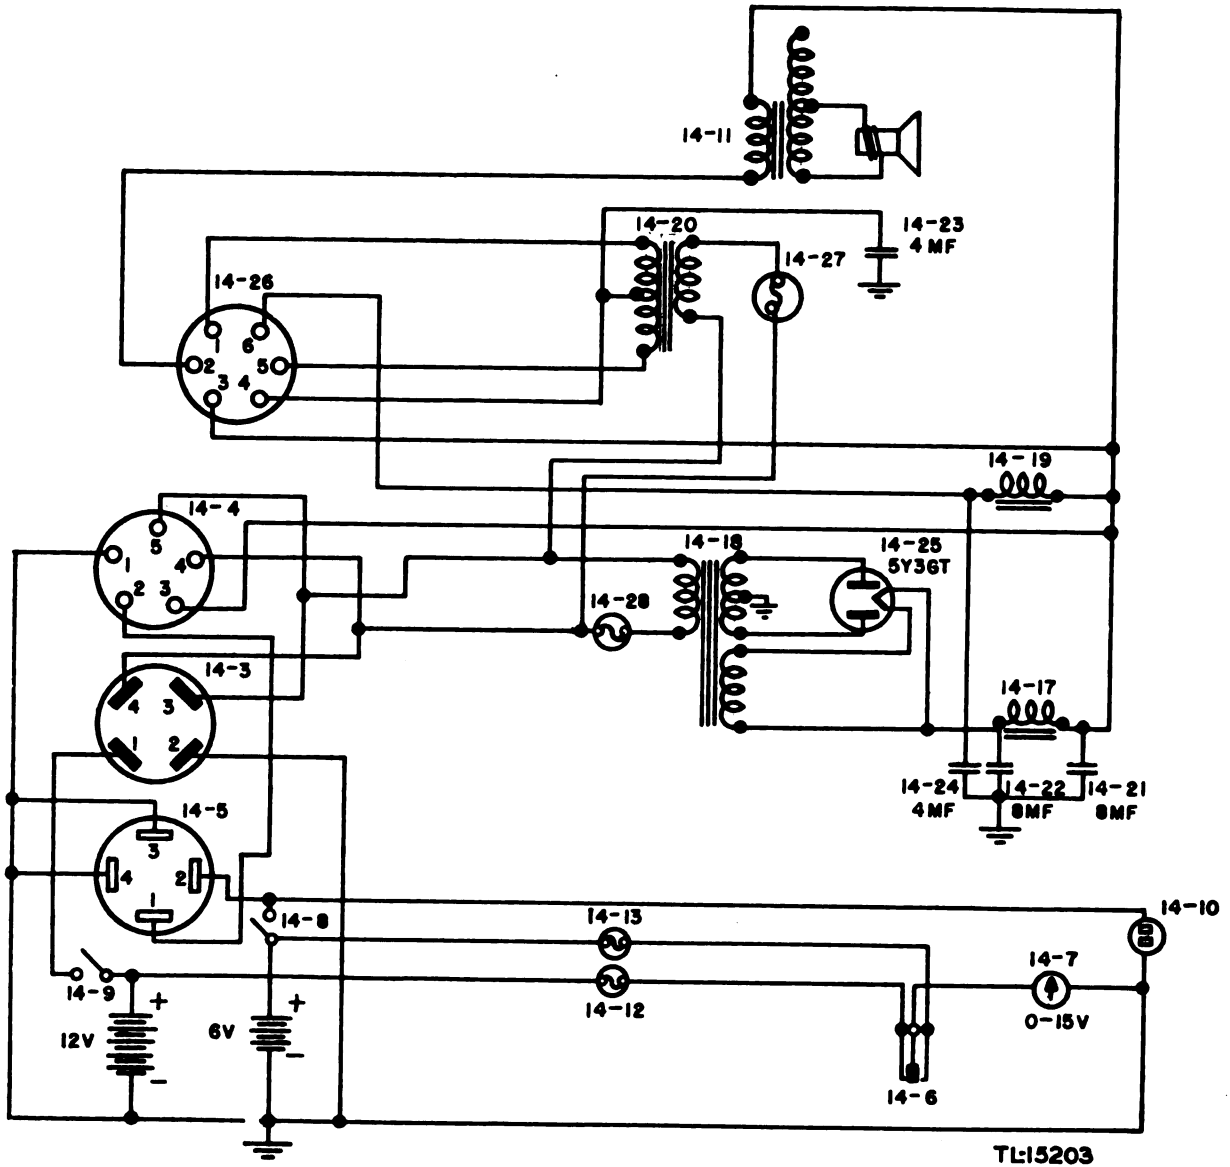

Figure 32. Control Panel PN-21-A, schematic diagram.
49. CONTROL PANEL CIRCUIT (fig. 32).